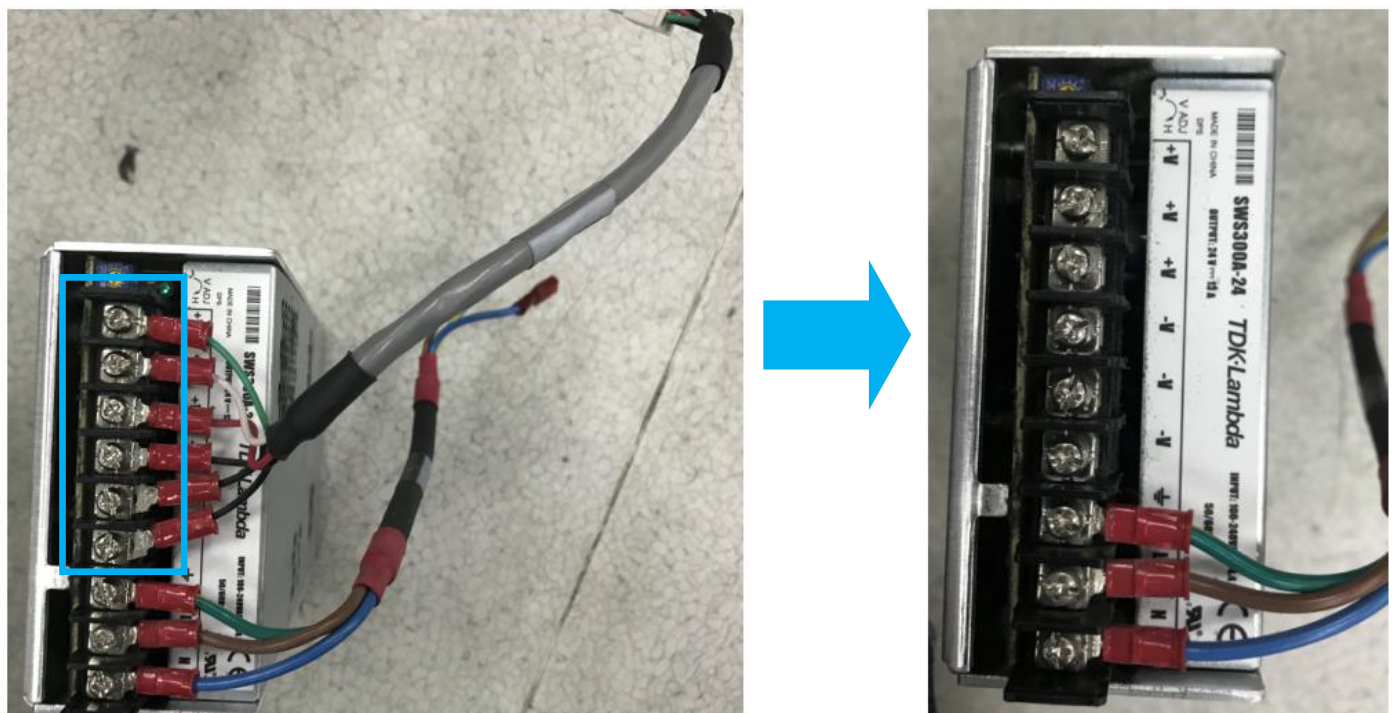

Figure 14 Trigger Board End Power Cable removal
16. Remove Trigger Board End Power Cable from Power Supply as below Figure 14.